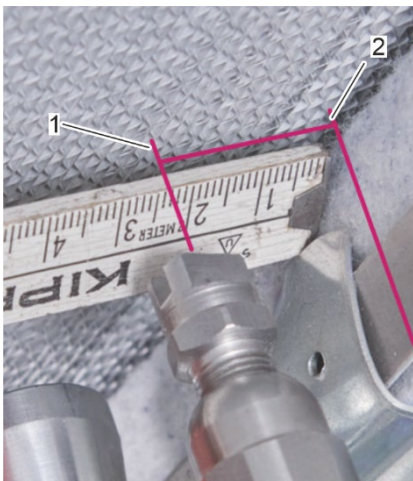

Fig. 39: Set distance between water nozzle and rotor circumference
4. Set the distance between the centre point of the high-pressure water nozzle (Fig. 39/1) and the rotor circumference (Fig. 39/2) to 2.5 cm by moving the cleaning carriage by hand using a folding ruler (optional).